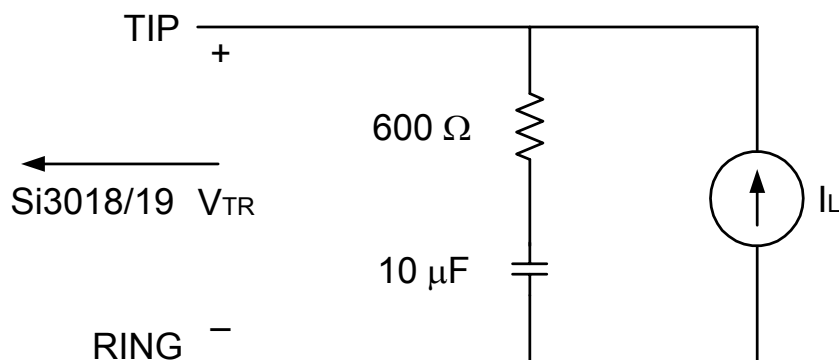

Figure 1. Test Circuit for Loop Characteristics
($V_D = 3.0$ to 3.6 V, $T_A = 0$ to 70 °C for K-Grade, see Figure 1 on page 6)
1. Measured at TIP and RING with 600 Ω termination at 1 kHz, as shown in Figure 1 on page 6.
1. Measured at TIP and RING with $600\ \Omega$ termination at 1 kHz, as shown in Figure 1 on page 6.